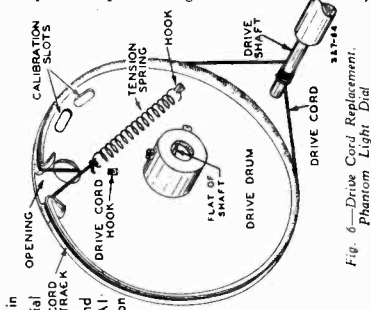

Fig. 6—Drive Cord Replacement, Phantom Light Dial
1. The reversing switch does not operate properly—Adjust reversing switch and put on centering spring (early models).—Par. 185—Figs. 6 and 23.
2. Reversing switch or wiring defective—Replace switch or check wiring.—Par. 186, 193—Figs. 6 and 24.
3. Set screws of setting disc loose—Tighten set screws.—Fig. 6.
5. Motor On-Off switch does not open fast enough after station is reached due to stop lever being too low or high—Adjust height of stop lever or switch lever until proper On position is reached.—Par. 138—Figs. 6 and 9.
2. Set screws in top pulley of main drive cable loose—Tighten these.—Par. 147—Fig. 6.
3. Clutch plate does not engage drive pulley—Bend clutch plate forward.—Par. 171—Fig. 6.